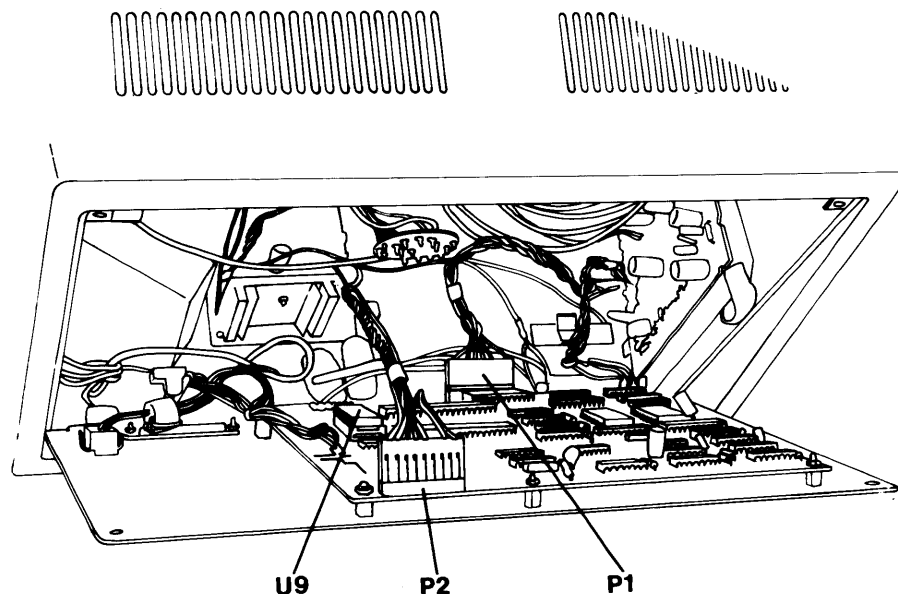

Figure 4-1: Disconnecting P1 and P2 from the Logic Board
1. Disconnect the plastic connectors from P1 and P2 on the logic board (Figure 4-1).
1. Verify that the PROM located at U9 on the new logic board (see Figure 4-1) is labeled with the most current revision number. If the PROM revision is not current (consult Morrow Dealer Service to be sure), replace it with a current PROM.